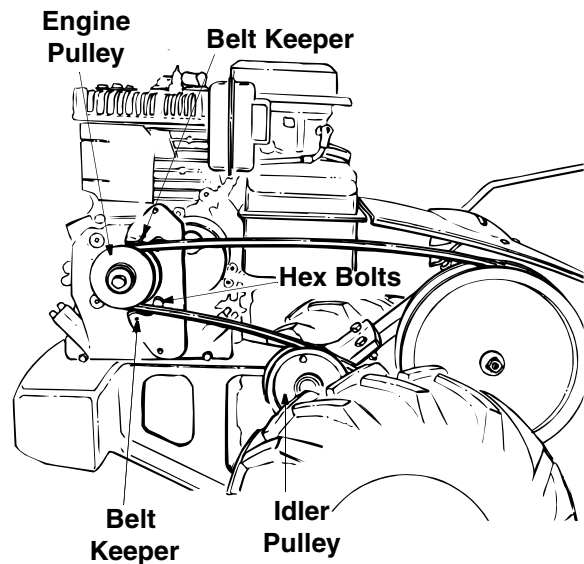

Figure 14
- Remove the belt keeper assembly located behind the engine pulley by removing two hex bolts and lock washers. See Figure 14.
**NOTE:** Upon reassembly, make certain the belt is routed over the idler pulley and inside of belt keepers by engine pulley. See Figure 14.